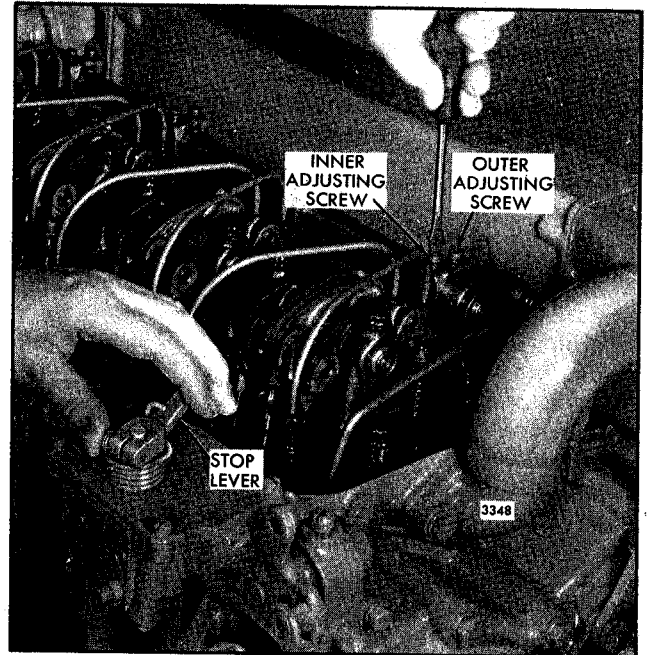

Fig. 2 - Positioning the Rear Injector Rack Control Lever
3. Loosen all of the inner and outer injector rack control lever adjusting screws (Fig. 2). Be sure all of the injector rack control levers are free on the injector control tube.